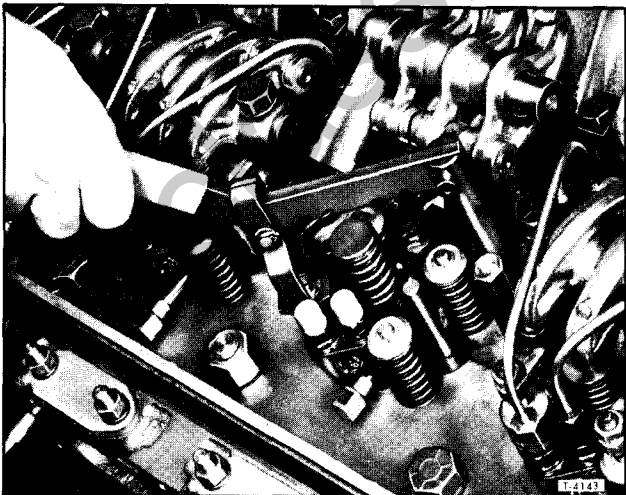

Figure 20—Use of Special Tool (J-7455) for Replacing Valve Spring with Cylinder Head Installed
8. Thread the spring compressor tool (J-7455) into one of the rocker arm shaft bracket bolt holes in cylinder head (fig. 20).